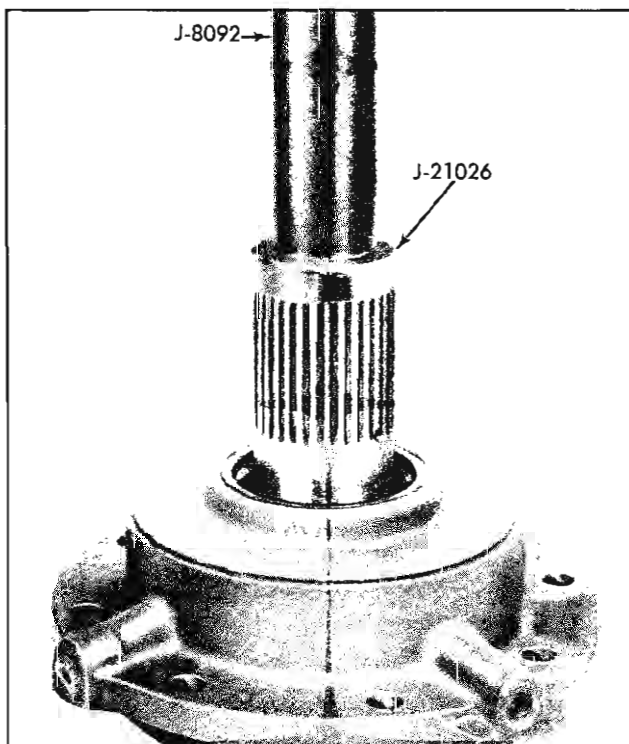

Fig. 4-51 Installing New Bushing
2. Install new bushing using tool J-21026 with J-8092 handle (Fig. 4-51).